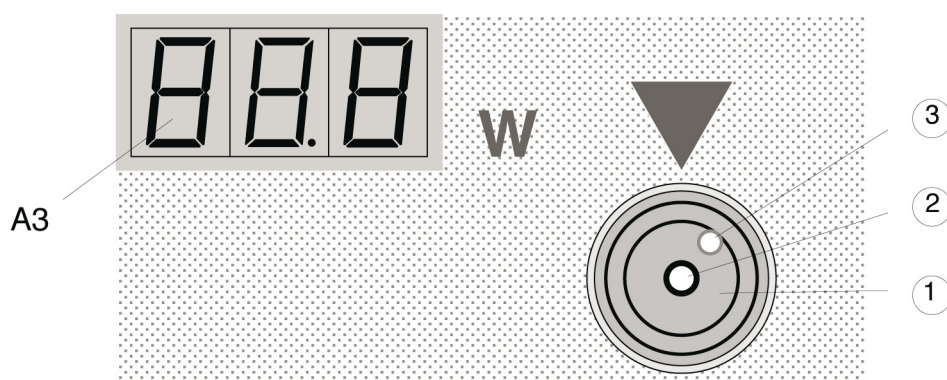

Fig. 5.5: Fiber testing device with fiber test adapter inserted
Adapter (1) must be additionally inserted. Insert the fiber into the central opening (2) (see Fig. 5.5) up to the protective glass, then withdraw fiber a little (1–2 mm). Never insert fibers into ventilation hole (3)! This hole is used for irrigation gas discharge when gas-irrigated fibers are employed.